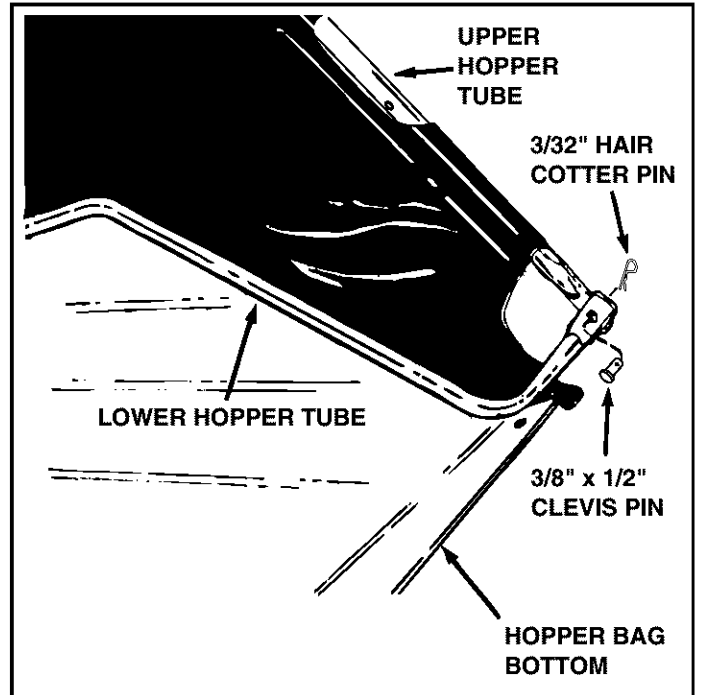

FIGURE 13
- Place the assembled lower hopper tubes into the bottom of the hopper bag as shown in figure 13.
- Attach the ends of the lower hopper tubes to the **inside** of the upper hopper tubes using two $3/8"$ x $1/2"$ clevis pins inserted from the inside, and two $3/32"$ hair cotter pins. See figure 13.